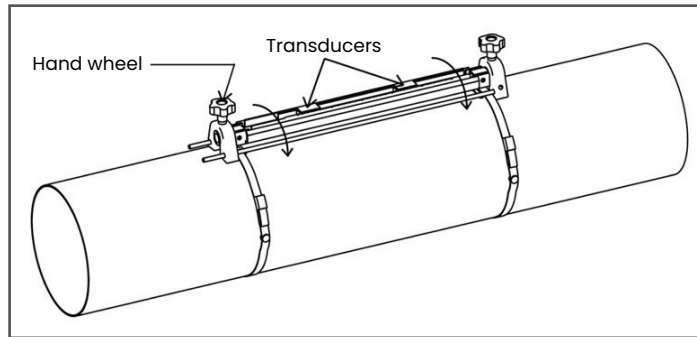

Figure 11: Transducers Rotated into View
- a. Loosen both transducers and rotate the fixture so that the transducers are in view (see Figure 11 below).
- a. Rotate the fixture so that the transducers are in view (see *Figure 11* on page 12).